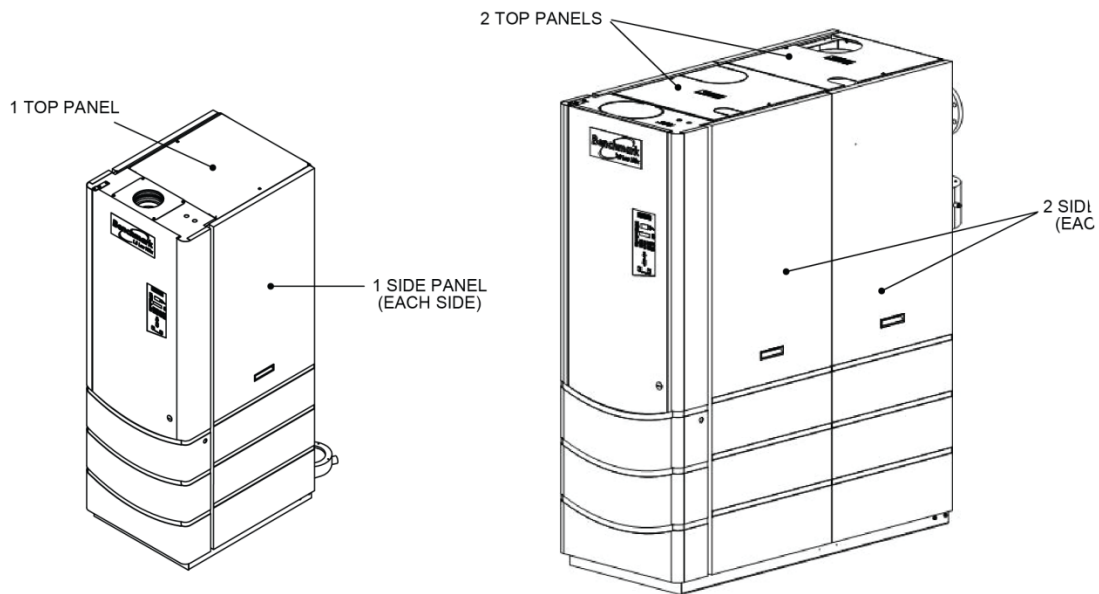

Figure 1: Removable Covers for BMK1.5/2.0 (Left) and BMK3.0 (Right)
4. Remove the top panel(s) of the unit. Benchmark 1.5LN and 2.0LN Models contain one (1) top panel. Benchmark 3.0LN Models contain two (2) top panels. See Figure 1.
5. Remove the side panels of the unit. Benchmark 1.5LN and 2.0LN Models contain one (1) panel on each side. Benchmark 3.0LN Models contain two (2) panels on each side. See Figure 1.